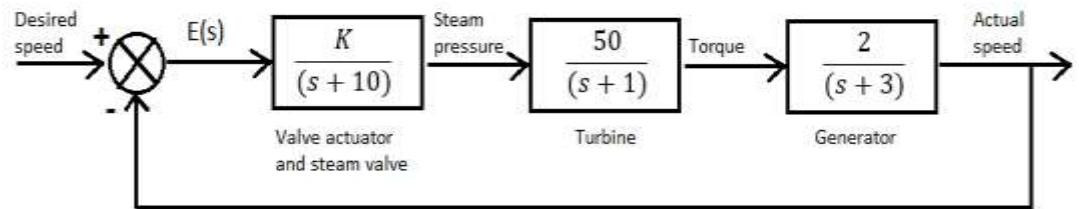

Fig. Q 2C
- (03)
2C. Block diagram of output speed control of electrical power from a turbine and generator pair is shown in **Fig. Q 2C**. Sketch the Nyquist diagram and using Nyquist criterion determine the range of ' K ' for the system to be stable. (04)